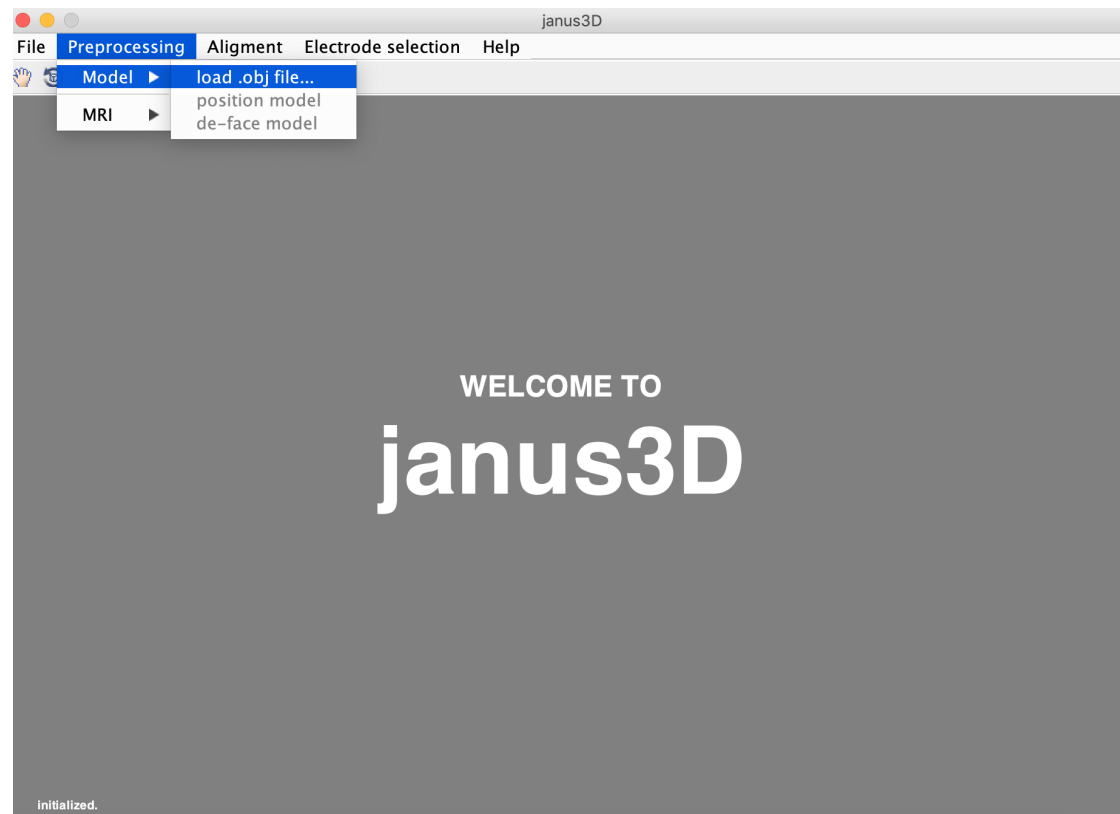

Figure 32. Opening 3D model in janus3D
1. Open janus3D in Matlab as described in 2.2. Choose “Preprocessing”, click “Model” and choose your 3D model .obj file (Figure 32).